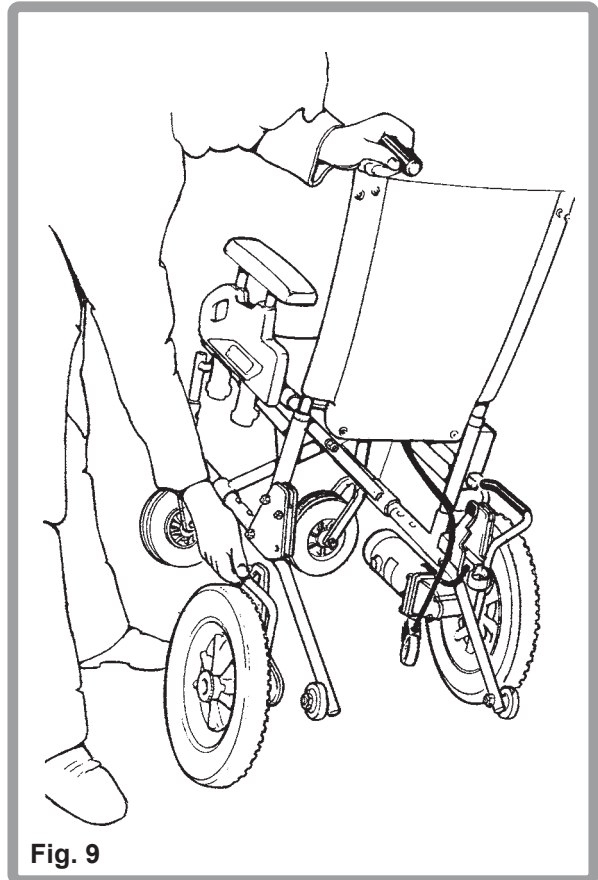

Fig. 9
2. Tilt and lift the locating tongue under the dedocking socket. Lower the chair until the dedocking trigger clicks into position (Fig. 9).